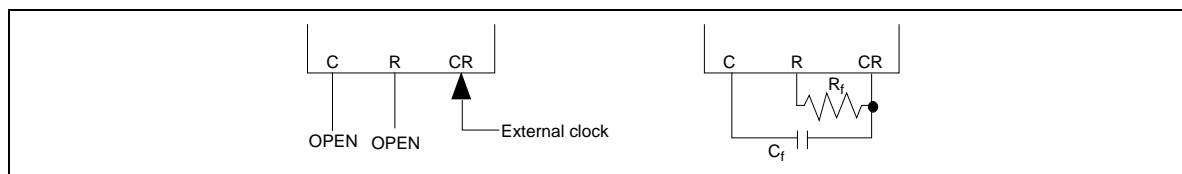

Figure 1 Oscillator Connection in Master Mode
- 1. CR Oscillator:** The CR oscillator generates the HD66523 operation clock. During master mode, since the operation clock is needed, connect oscillation resistor R_t with oscillation capacitor C_t . When the external clock is used. Input external clock to pin CR and open pins C and R (Figure 1).